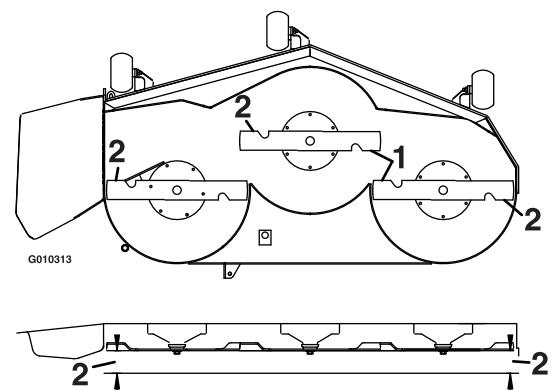
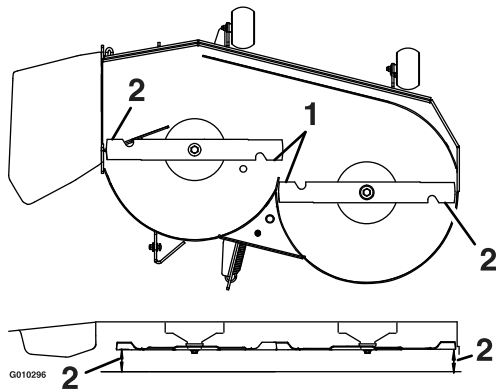

Figure 24
Figure 25
6. Measure between the outside cutting edges and the flat surface (Figure 24 and Figure 25). If both measurements are not within 3/16 inch (5 mm), an adjustment is required; continue with this procedure.
9. Carefully rotate the blades side to side (Figure 24 and Figure 25).